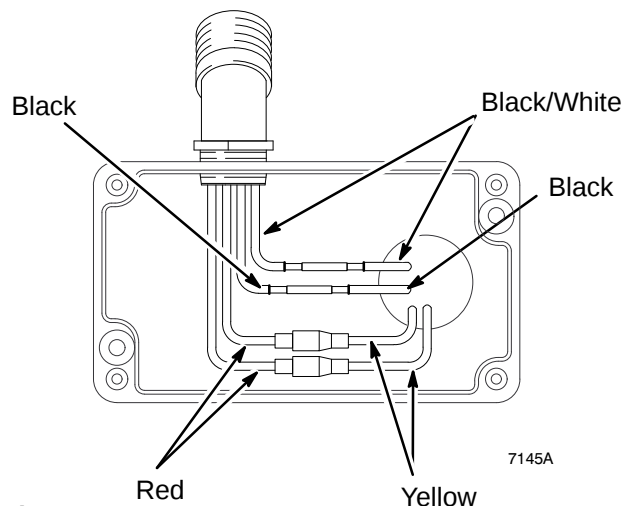

Fig 4
3. Loosen outlet cover on pressure control wiring box. Disconnect motor leads. See Fig 4.
3. Remove filter assembly by unthreading swivel union (15) from hex nipple (103). Unthread nipple from pressure control (5)
4. Remove eight screws (64) and motor shield (14).
5. Remove outlet cover (221) on pressure control wiring box. Disconnect motor leads. See Fig 4.
6. Loosen electrical tubing (22) from pressure control fitting and pull out wires
7. Remove hose (28) from rear of pressure control swivel union (15).
8. Support pressure control (5) and carefully remove motor mount screws (37). Remove pressure control.
9. Install new pressure control (5) with screws (37).